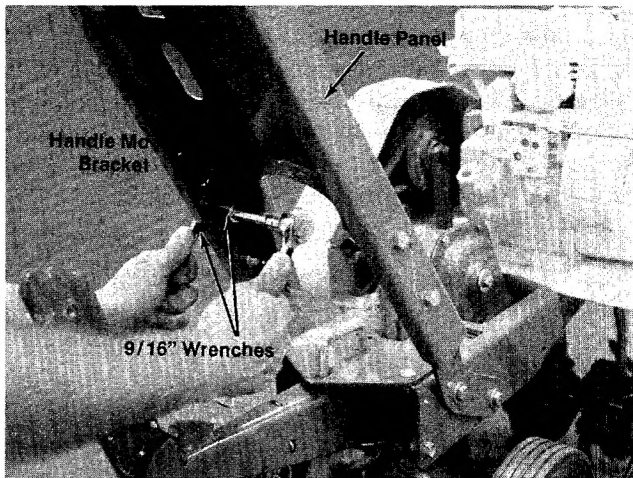

FIGURE 8.
The handle panel is attached by sliding it down over the handle brackets on the chassis and installing four hex screws (L) in the lower holes of the handle panel. Four hex screws (L), lockwashers (N) and hex nuts (O) will be found in the hardware pack. Lockwashers and hex nuts are tightened from the inside of handle panel, tighten securely. See figure 8.